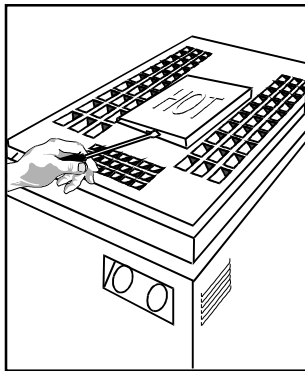

Figure 2.
1. Remove the top plate, stamped "HOT", by slipping a fine-blade screwdriver into the slot and prying it up (see Figure 2).